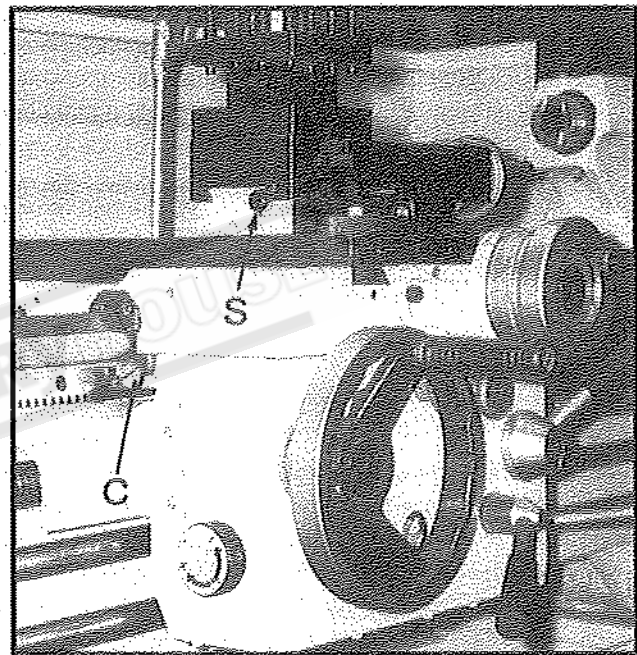

Fig.25
A trip mechanism is incorporated into the apron power drive. Trip loads are preset at the factory. If necessary, it may be re-adjusted by the knurled Knob on the left side of left-hand apron. (Fig.25) (On the right side of the right-hand Apron).
Tapered gib is fitted in the front wing of the saddle adjusted by screw (C) (Fig.25).